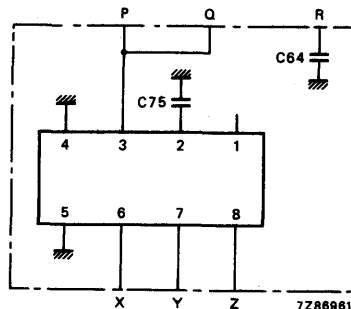

Fig. 1b.
* C64 only in versions with IC of Fig. 1b.